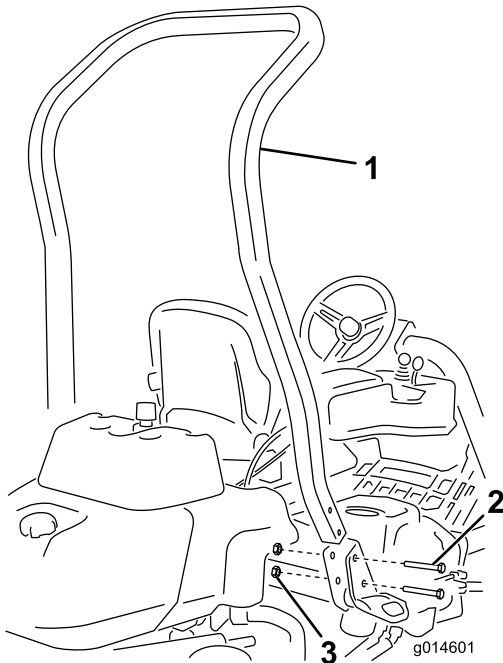

Figure 3
3. Install the roll bar into the pockets on each side of the machine, using 4 bolts (1/2 x 3-3/4 inches) and 4 flange-nuts (1/2 inch) (Figure 3)